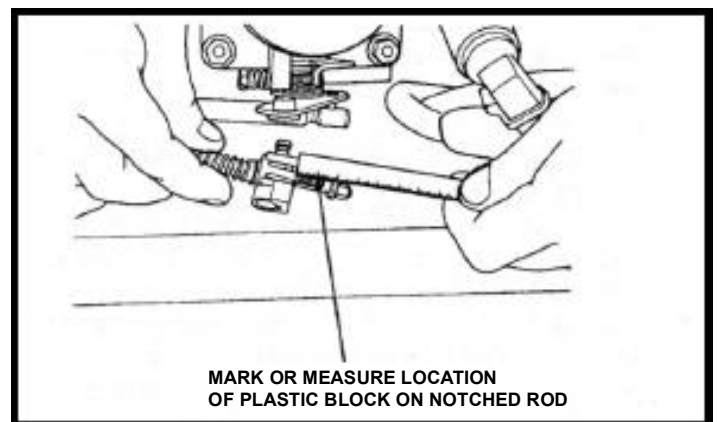

FIGURE 19
7.10 Mark or measure location of plastic block on notched rod. (See Fig. 19).